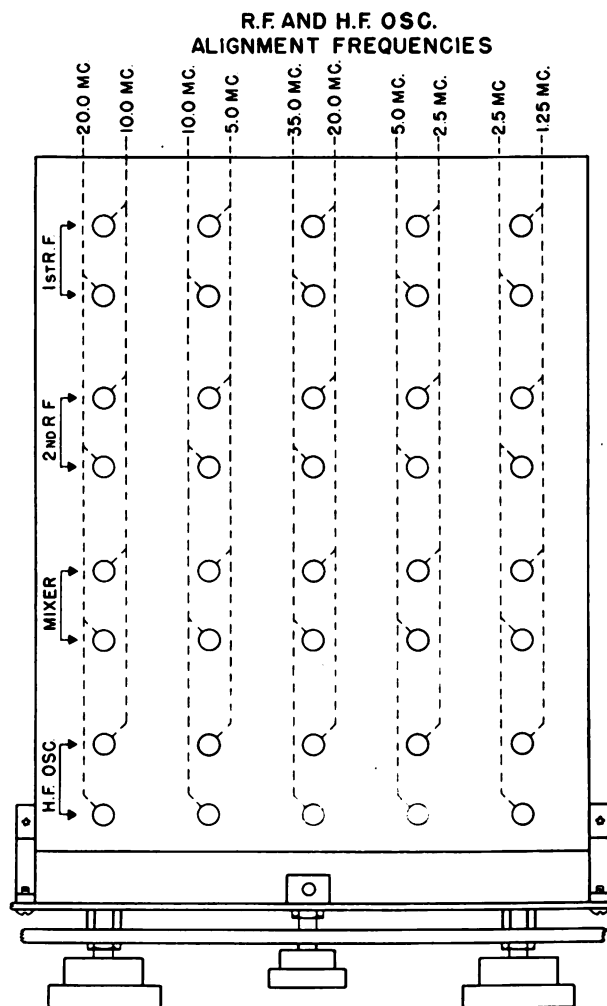

Figure 20. Radio Receiver R-270/FRR, alinement chart.
e. HIGH-FREQUENCY OSCILLATOR CALIBRATION CHECK. The accuracy of the main dial calibration depends solely on the h-f oscillator frequency which, on all bands of the receiver except the 20- to 40-mc band, is 465 kc (the i. f.) higher than the signal frequency. The h-f oscillator frequency is 465 kc below the signal frequency on the 20- to 40-mc band. To check calibration, tune in signals of known frequency on each band and note the main dial reading. If it does not agree with the known frequency of the signal being received, the calibration is off. To correct dial calibration see the alinement chart (fig. 20) for location of h-f oscillator adjustments as well as the signal frequencies at which adjustments should be made. The signal generator may be set for the lower end of the band, and its second harmonic, if strong enough, may be used at the upper end. The output of the signal generator should be unmodulated,
and the SIGNAL MOD-CW switch on the receiver should be set at CW, the BEAT OSCILLATOR control at zero, and the BAND WIDTH at 16. Disconnect output meter and use headphones or a loudspeaker to make the necessary adjustments by the zero beat method. The signal generator is to be connected to the antenna input for this test. If this test is made, for example, on the 2.5- to 5.0-mc band and the signal generator is tuned for 2.5 mc, the second harmonic may be used at the 5.0-mc end of the band. Tune in the second harmonic at the 5.0-mc end of the dial to zero beat. If the dial is off the 5.0-mc calibration line, turn the dial toward the correct setting just enough to set up a high-pitched tone but not enough to go above audibility. With the alinement screwdriver, adjust the 5.0-mc h-f oscillator trimmer capacitor (fig. 20) until the beat is returned to zero. Repeat this until the dial has been returned to a correct reading and zero beat. After alining the 5.0-mc end of the band, tune the 2.5-mc fundamental at the l-f (low-frequency) end of the main dial, and correct the calibration step by step as before, using the inductance trimming adjustment h-f oscillator (2.5 mc). The 5.0-mc end will now be found out of line again, when tuned, since the adjustment at one end of the band affects the other end of the band. A back-and-forth check and readjustment will be necessary to bring both ends of this band into exact agreement with signal frequency and dial calibration.
mc band, set the main dial at 5.0 mc with BAND SPREAD dial at 100, and adjust the frequency of the signal generator to peak deflection of the output meter. Check the setting of the 5.0-mc mixer trimmer (fig. 20). Repeat this procedure on trimmers indicated as 2d RF and 1st RF in the same row. If readjustment of the settings result in an increase in output meter reading, alter the SENSITIVITY control to reduce the reading to half-scale. Check the tuning of the receiver after each adjustment to see that the test signal is accurately tuned. The BAND SPREAD control may be used as a vernier for this purpose on the bands in which it operates.